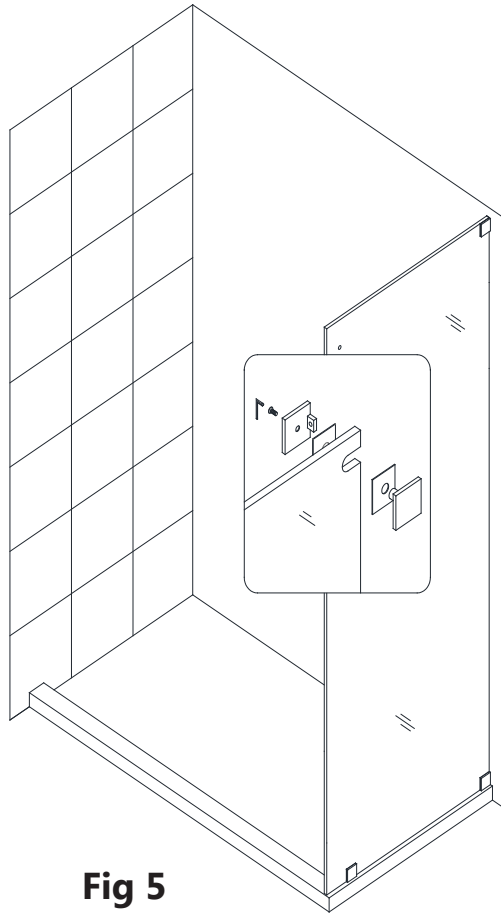

Fig 5
5. Place the **Return Panel (#27)** back in the designated position and assemble the **Wall Brackets (#19)** onto the glass. Use the provided bracket gaskets and sleeves to protect the glass. **(Fig 5)**